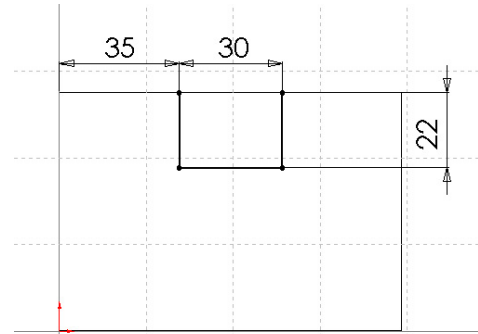

Figure 10 Rectangular Slot Dimensions
- 7) Dimension the sketch as shown in Figure 10. The sketch is fully constrained and turns to black. If not, apply coincident constraints to the endpoints of the vertical lines with the top edge of the part.